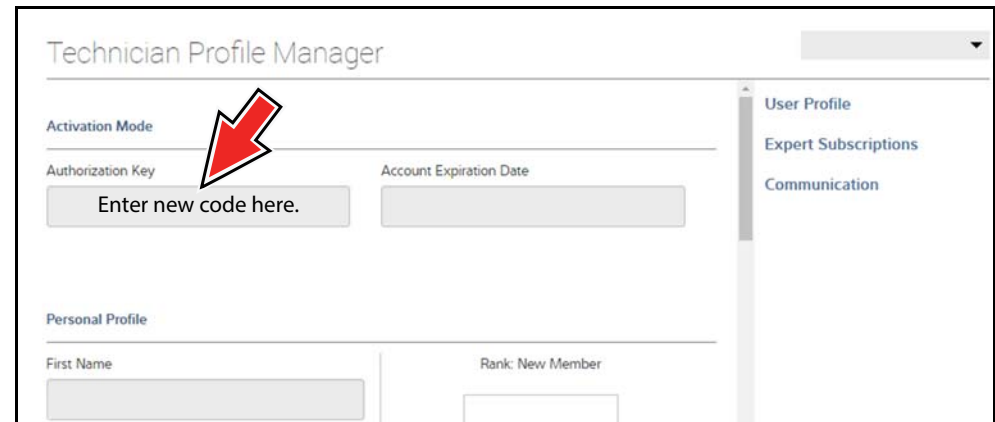

Figure 15-12
7. Enter your new **Authorization code** (Figure 15-12).